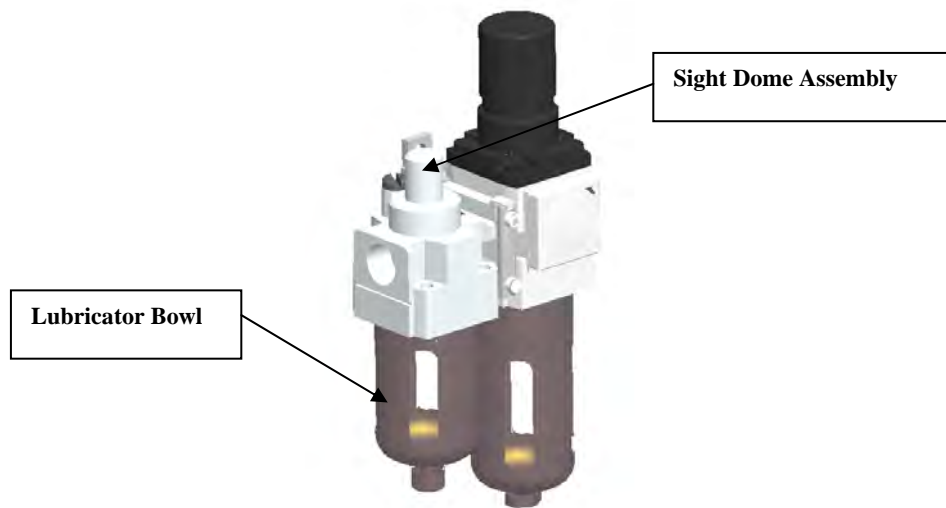

Figure 9 – FRL
6. Tighten the nuts to secure the FRL (**Figure 9**).